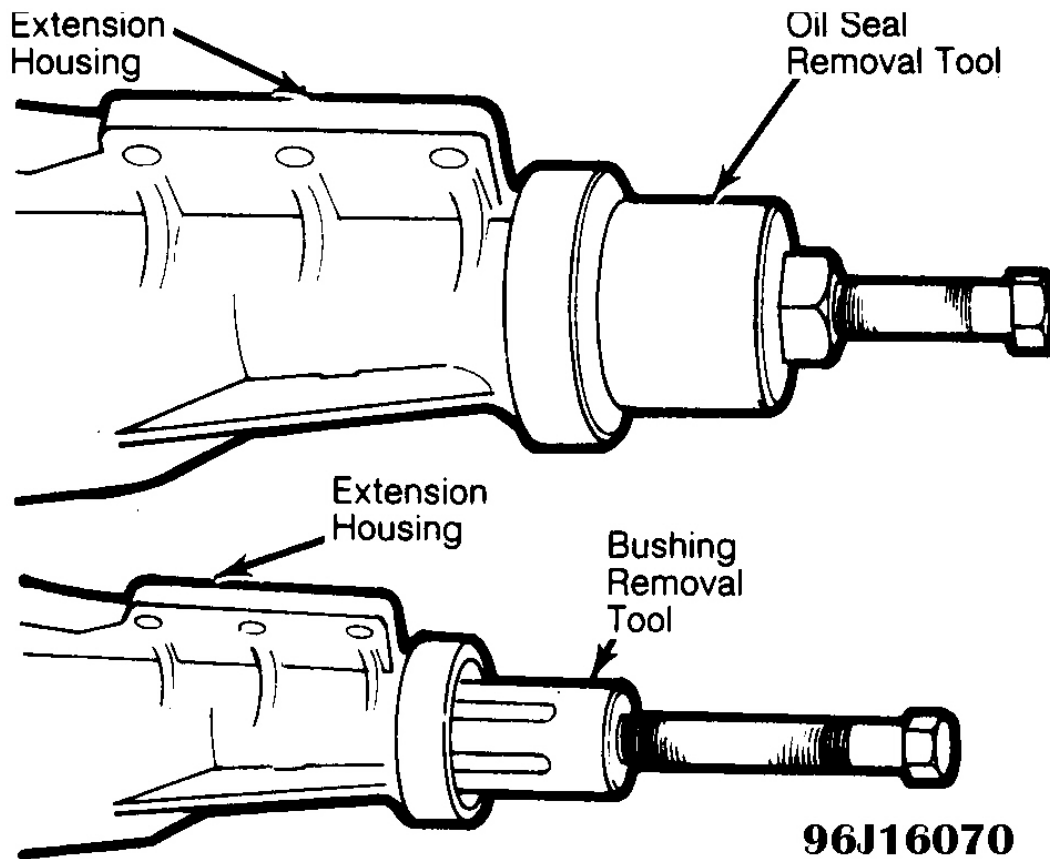

Fig. 4: Removing Extension Housing Oil Seal & Bushing
2. Remove extension housing rear oil seal and bushing using Pullers (T71P-7657-A for seal and T77L-7697-E for bushing). See **Fig. 4**.